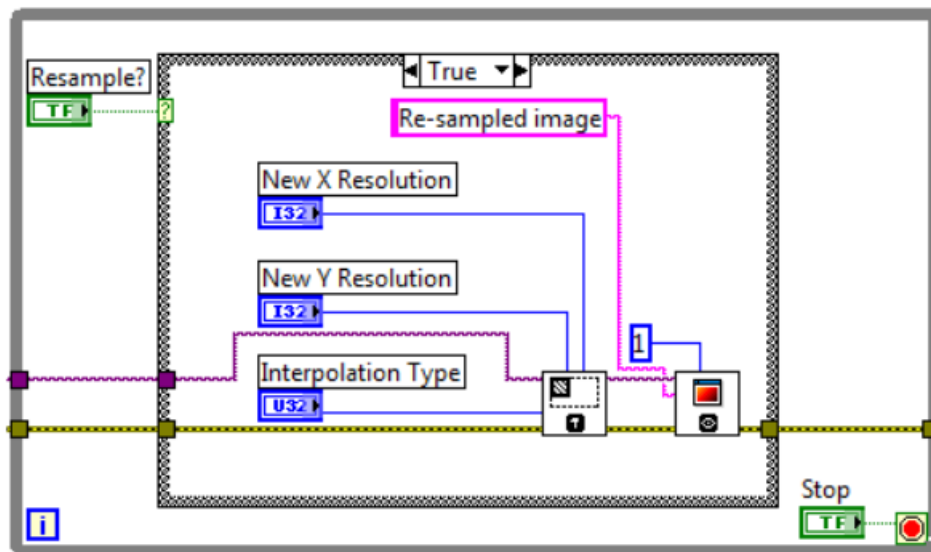

Figure 11: Block Diagram for "True" Case Structure
14. Wire the rest as illustrated in Figure 11.